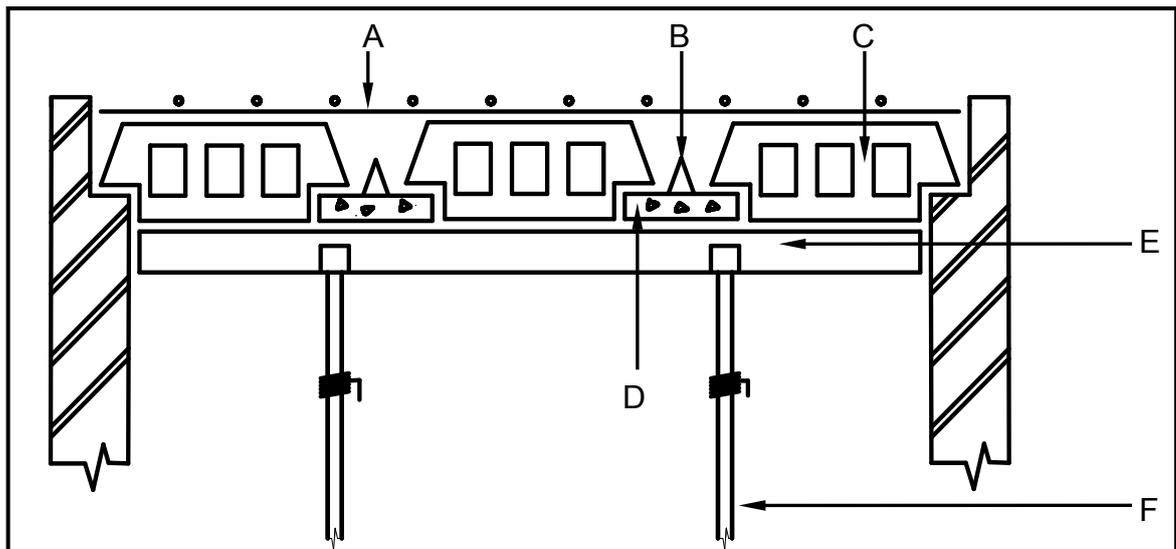

FIGURE 2.9
- 2.9 FIGURE 2.9 is a sketch showing the layout of a concrete floor.
- 2.9.2 Explain the purpose of components **E** and **F** as used in FIGURE 2.9. (2)
- 2.9.3 What is the type of floor construction in FIGURE 2.9 called? (1)
- 2.9.4 Justify why you would rather use the type of floor construction in FIGURE 2.9 than an in-situ cast suspended floor. (3)